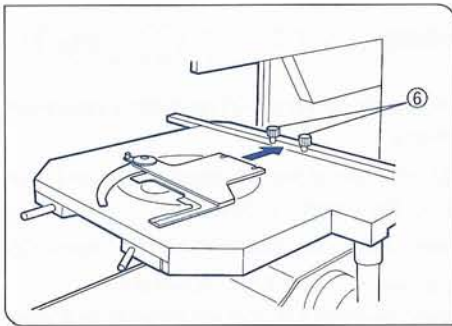

Fig. 5
1. Loosen the specimen holder clamping screws (6).
3. Tighten the specimen holder clamping screws. (Fig.5)